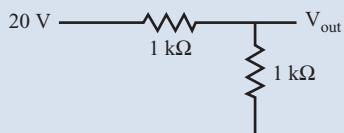

FIGURE 6.36
B. Figure 6.36 shows the portion of the circuit that a DC signal passes through.